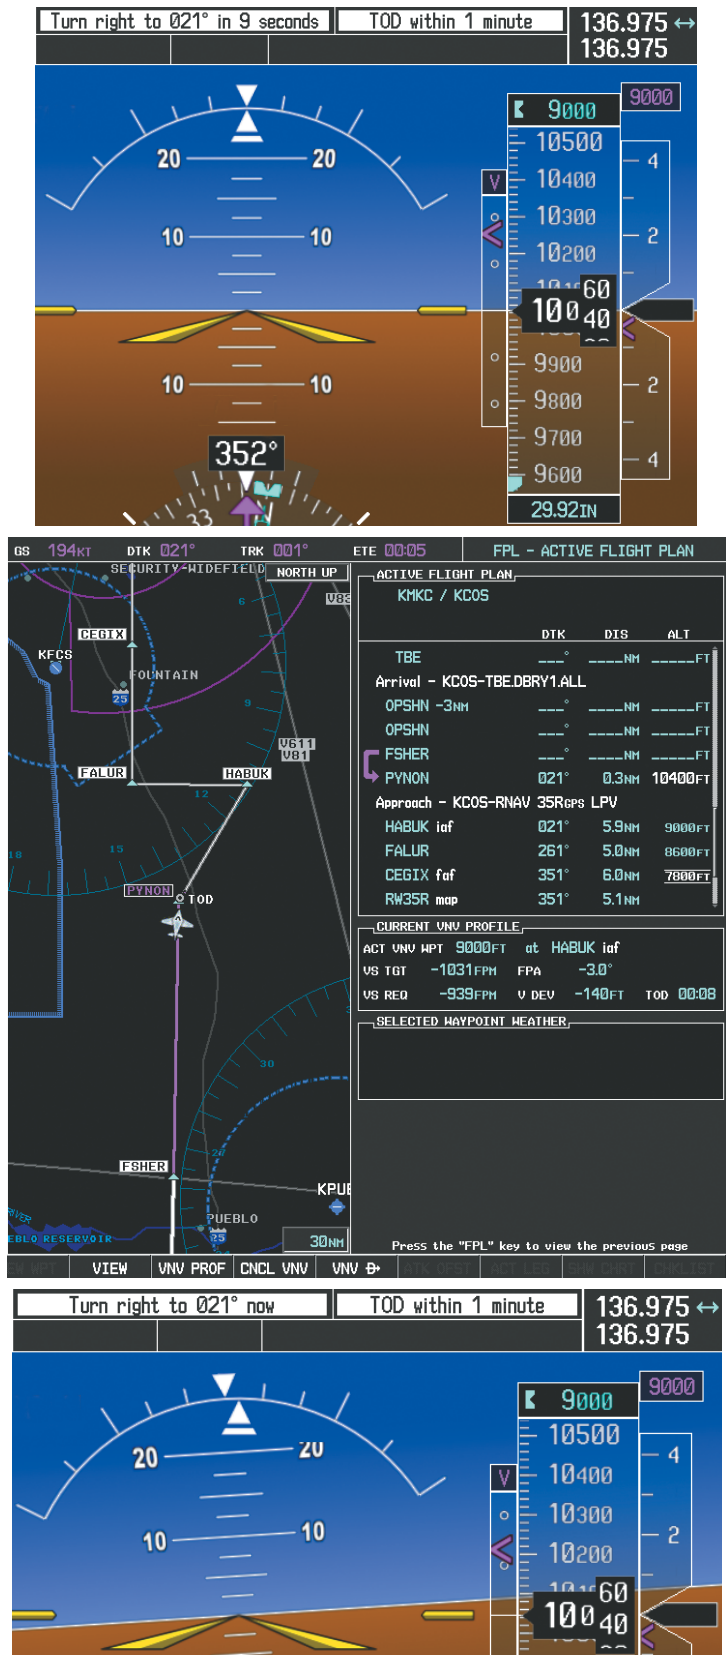

Figure 5-140 Approaching PYNON
- 20) The flight continues through the arrival procedure to PYNON (see Figure 5-140). At a point 31 nm from the destination airport, the phase of flight scaling for the CDI changes to Terminal Mode and is annunciated by displaying 'TERM' on the HSI.